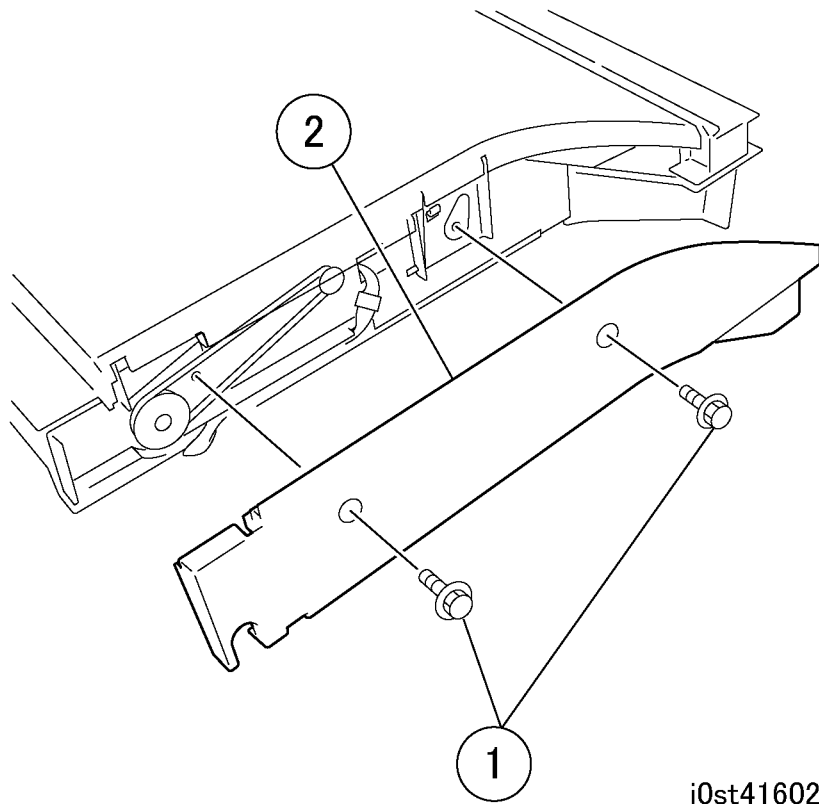

Figure 1 Removing the H-Transport Rear Cover
2. Remove the H-Transport Rear Cover. (Figure 1)